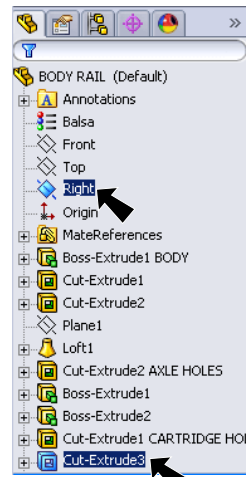

Fig. 121
Step 1. **Ctrl click Right**  (plane) and **Cut-Extrude3** at the bottom of Features to select both, **Fig. 121**.